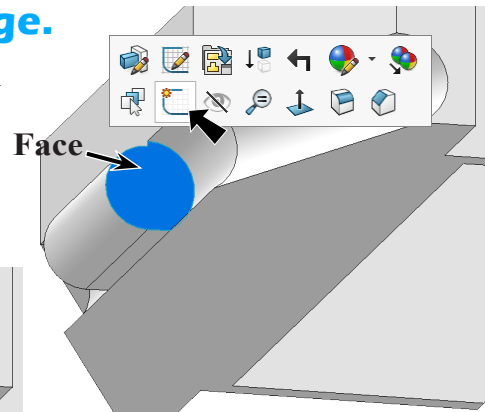

Fig. 22
Step 1. Click the **side face of hinge** and click **Sketch**  on the context toolbar, **Fig. 22**.